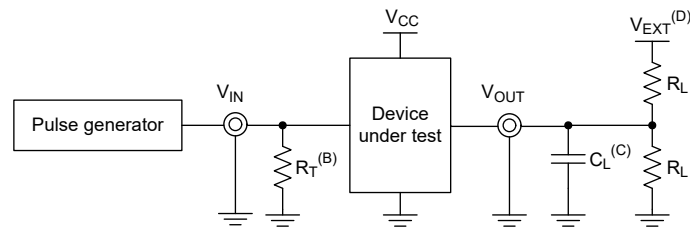

Figure 7-1. Load Circuit
2. Waveform 1 in Figure 7-3 is for an output with internal such that the output is high, except when OE is high (see Figure 7-1). Waveform 2 in Figure 7-3 is for an output with conditions such that the output is low, except when OE is high.